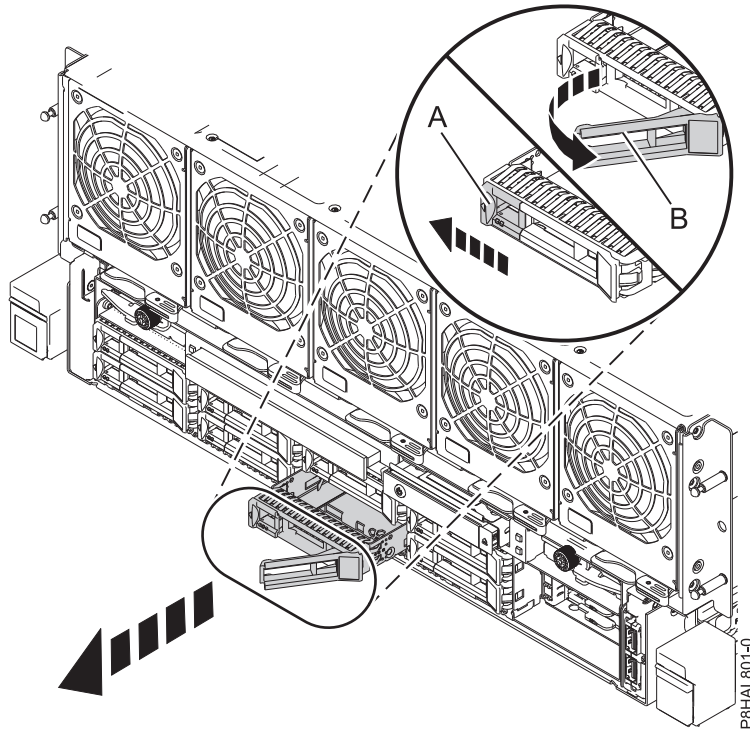

Figure 22. Removing a disk drive from the 8408-44E or 8408-E8E system
3. When the identify LED turns on solid, unlock the drive bay handle **(B)** by pressing the handle latch **(A)** and pulling it out toward you, as shown in Figure 22 on page 35. If the handle is not all the way out, the solid-state drive cannot slide out of the system.